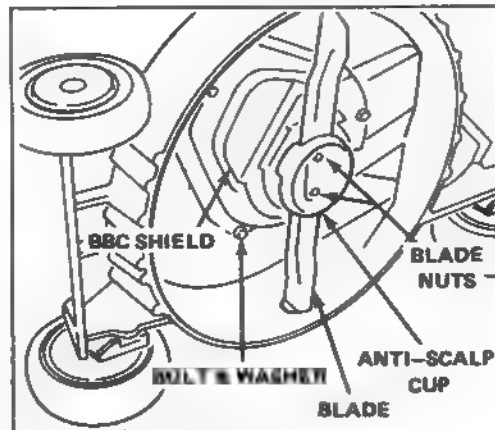

Figure 29
4. Remove (2) blade nuts, anti-scalp cup, blade, blade spacer, and (3) bolts and washers securing BBC shield to mower deck (Fig. 29).